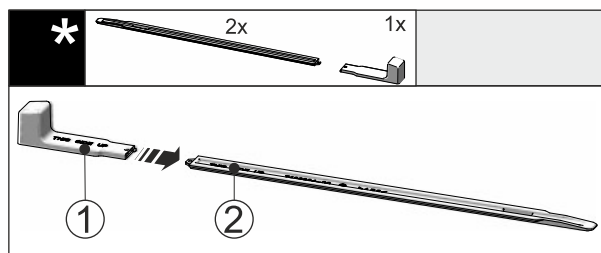

Fig. 48
- Attach the installation handle Fig. 48 (1) to the levelling rail Fig. 48 (2).